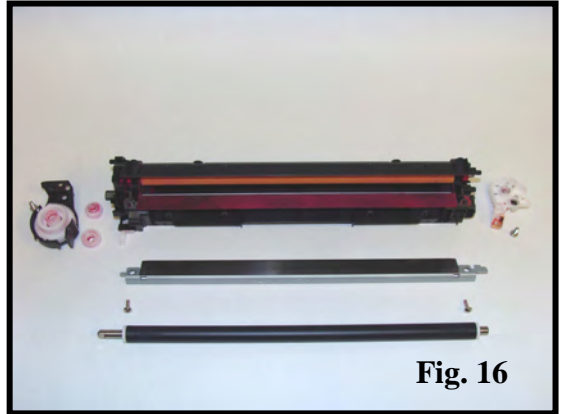

Fig. 16
16. Fill the toner hopper with the proper toner and desired gram load. Clean the developer roller and doctor blade with compressed air. Wipe down with a lint free, wax free, wipe. Reassemble the toner hopper in reverse order (Fig. 16).